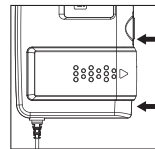

Figure 3
- (3) Cover back the lid. (Figure 3)